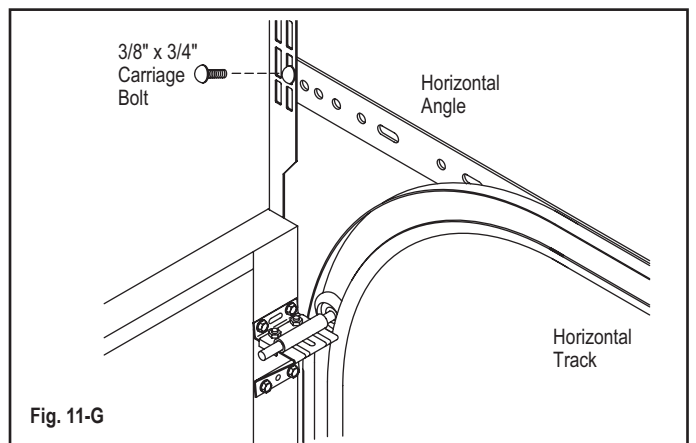

Fig. 11-G
- Use 1-1/4" × 1-1/4" punched angle, at least 13 gauge or 3/32" steel to make two rear track hangers with sway braces (Fig. 11-H).
- Attach to track using at least 1" long bolts (Fig. 11-H).